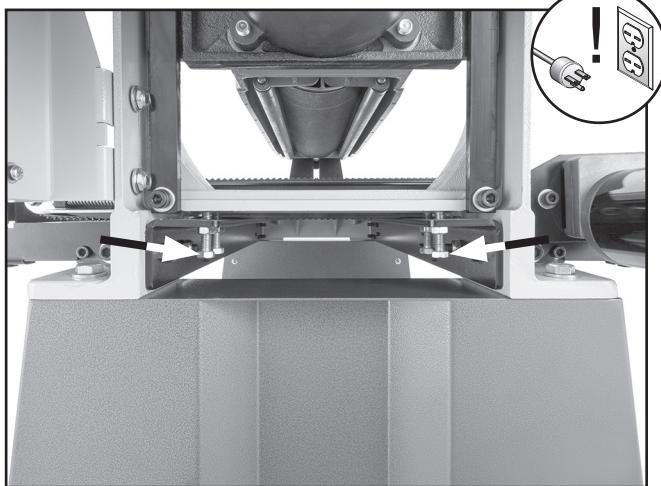

Figure 62. Adjustment hardware for left side.
- If B measurement was larger than A measurement, loosen (2) hex nuts shown in **Figure 62** and tighten (2) hex bolts until measurements are equal.